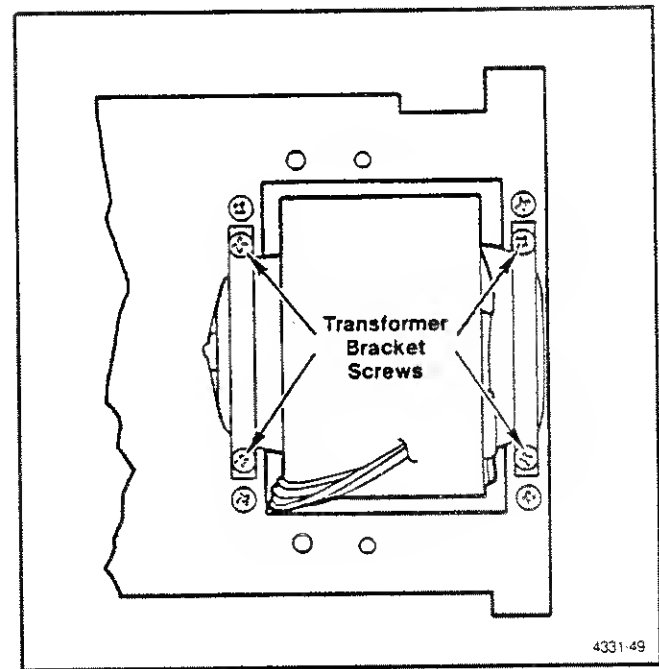

Fig. 7-5. Transformer and bracket (partial pictorial).
- e. Remove the transformer bracket screws (4), as shown in Fig. 7-5.